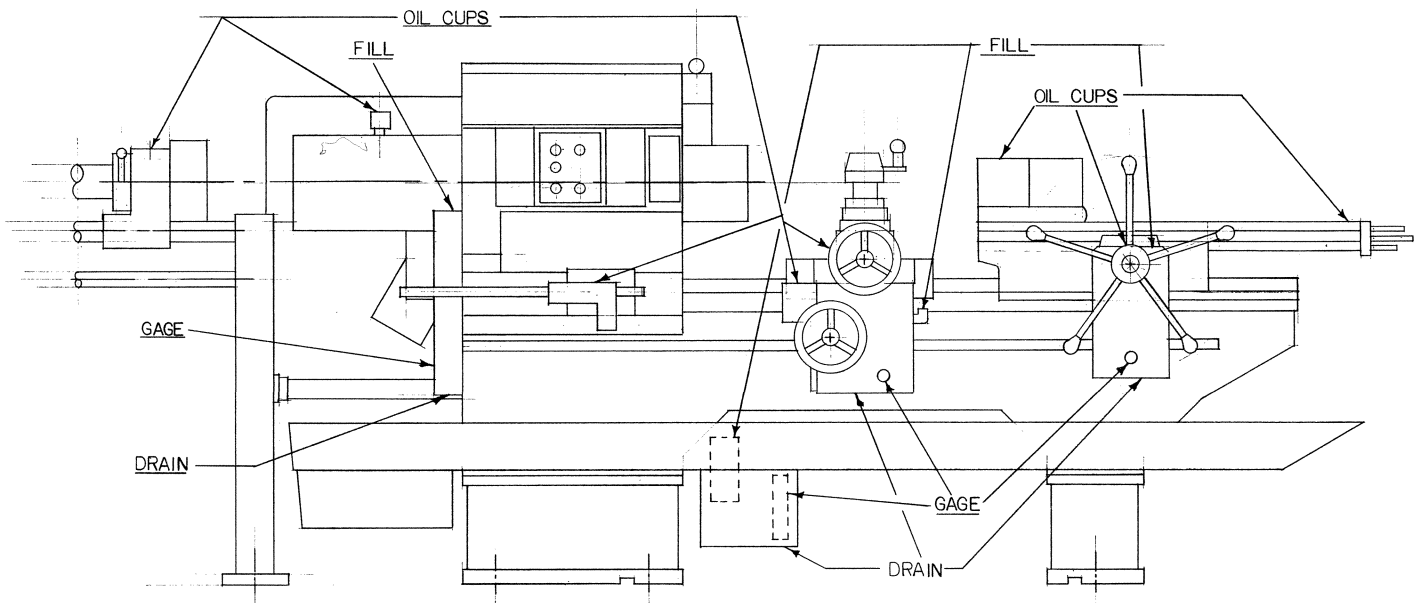

FIG. 2
*The instructions on the lubrication chart (Figure 2) must be followed.* If the machine is operated on a multi shift basis, the headstock and aprons should be drained, flushed and refilled two or three times as often as called for on the chart.